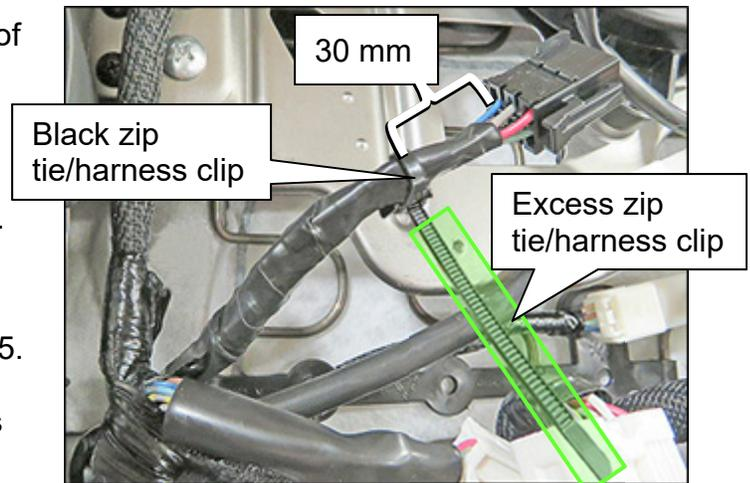

Figure 28
34. Attach the black zip tie/harness clip provided, where shown in Figure 28.